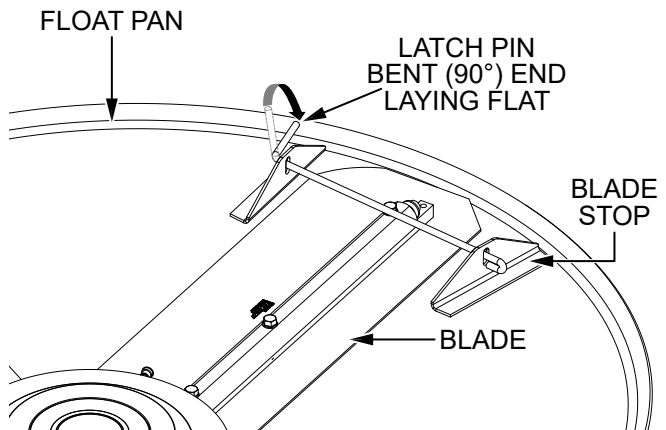

Figure 35. Latch Pin Placement
4. After it has been routed through the **blade stop** holes, rotate the **latch pin** so the end that is bent approximately 90 degrees lays flat on the surface of the **float pan**. See Figure 35.